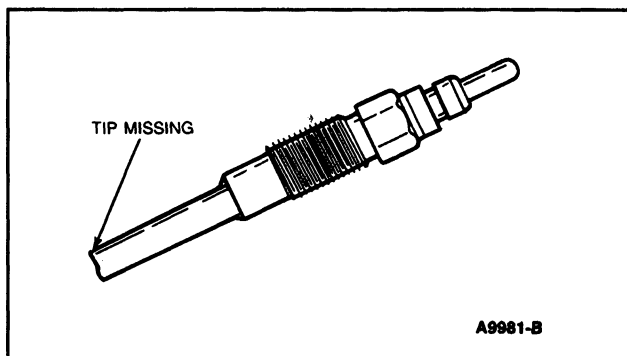

Figure 22: Missing Tips
- Glow plug tip that is missing can be caused by incorrect timing or poor fuel quality (Figure 22).